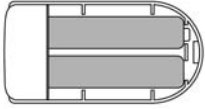

Figure 6
- 2) Install the two “AAA” Alkali batteries, pay attention to the polarity, shown as Figure 6..